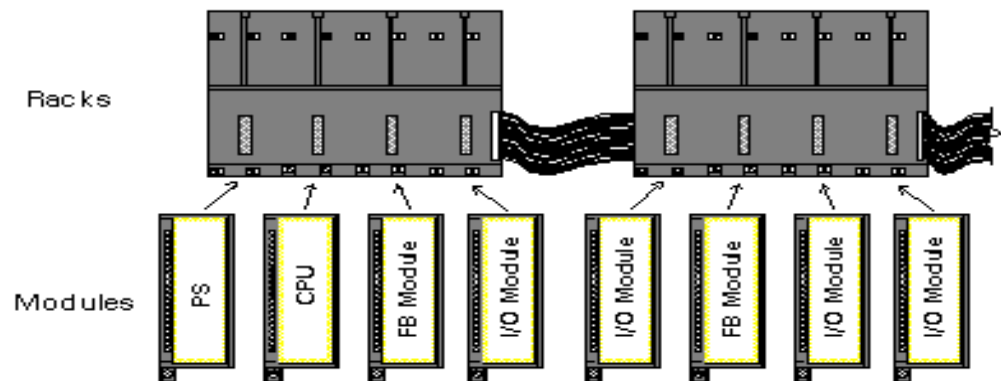

Figure 2.1 - Racks and Modules
Racks can be interconnected for system expansion. Each Rack has four (4) Slots. This means that every added Rack makes room for four (4) extra Modules (See Figure 2.1).